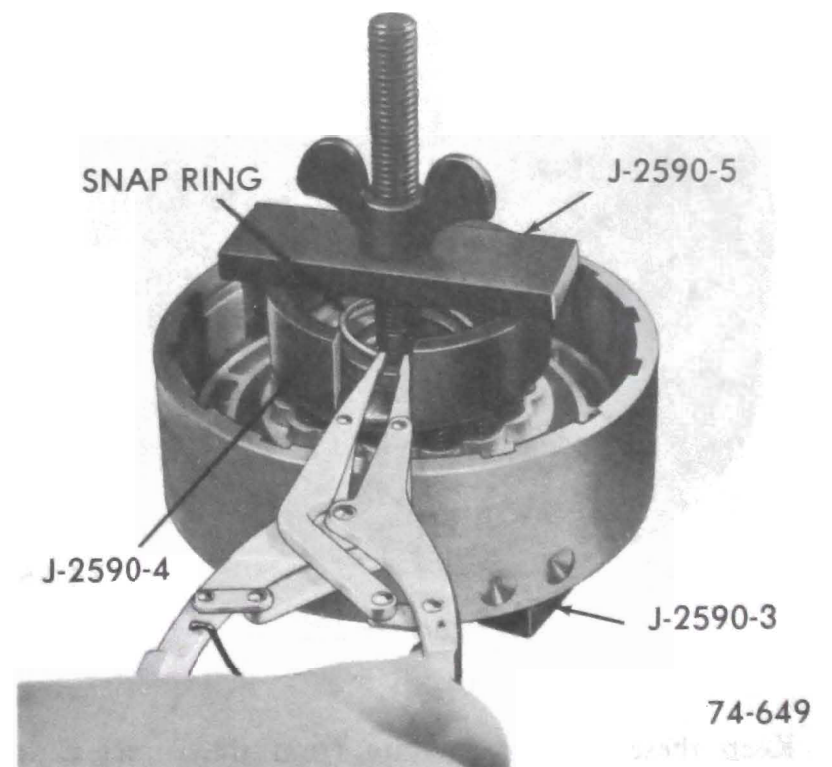

Figure 76-180
6. Using J-2590 clutch spring compressor, compress the spring retainer and remove the snap ring. See Figure 76-180.